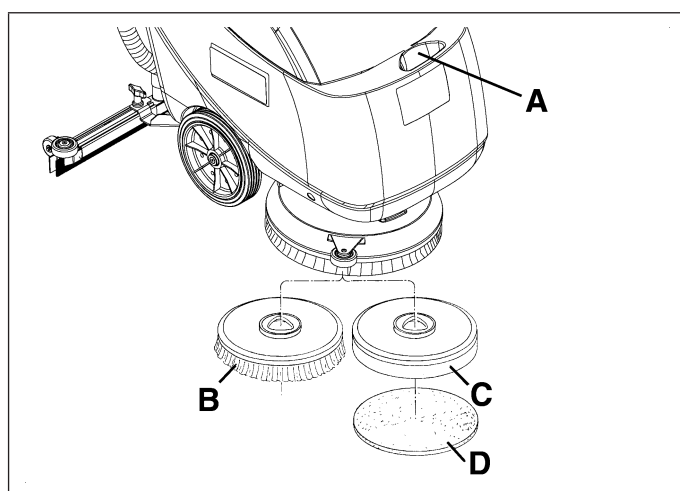

Figure 11
2. Fill the solution tank (A, Fig. 11) with a solution suitable for the work to be carried out. Do not fill the solution tank completely, leave few inches from the edge. Always follow the dilution instructions on the container label on the chemical product used to create the solution. The solution temperature must not exceed 100°F (40°C).
*According to the kind of cleaning to be carried out, the machine can be equipped both with the brush (B, Fig. 11) and the pad-holder (C) with pad (D).*
5. Place the brush (B, Fig. 11) or the pad-holder (C) with pad (D) under the cover.